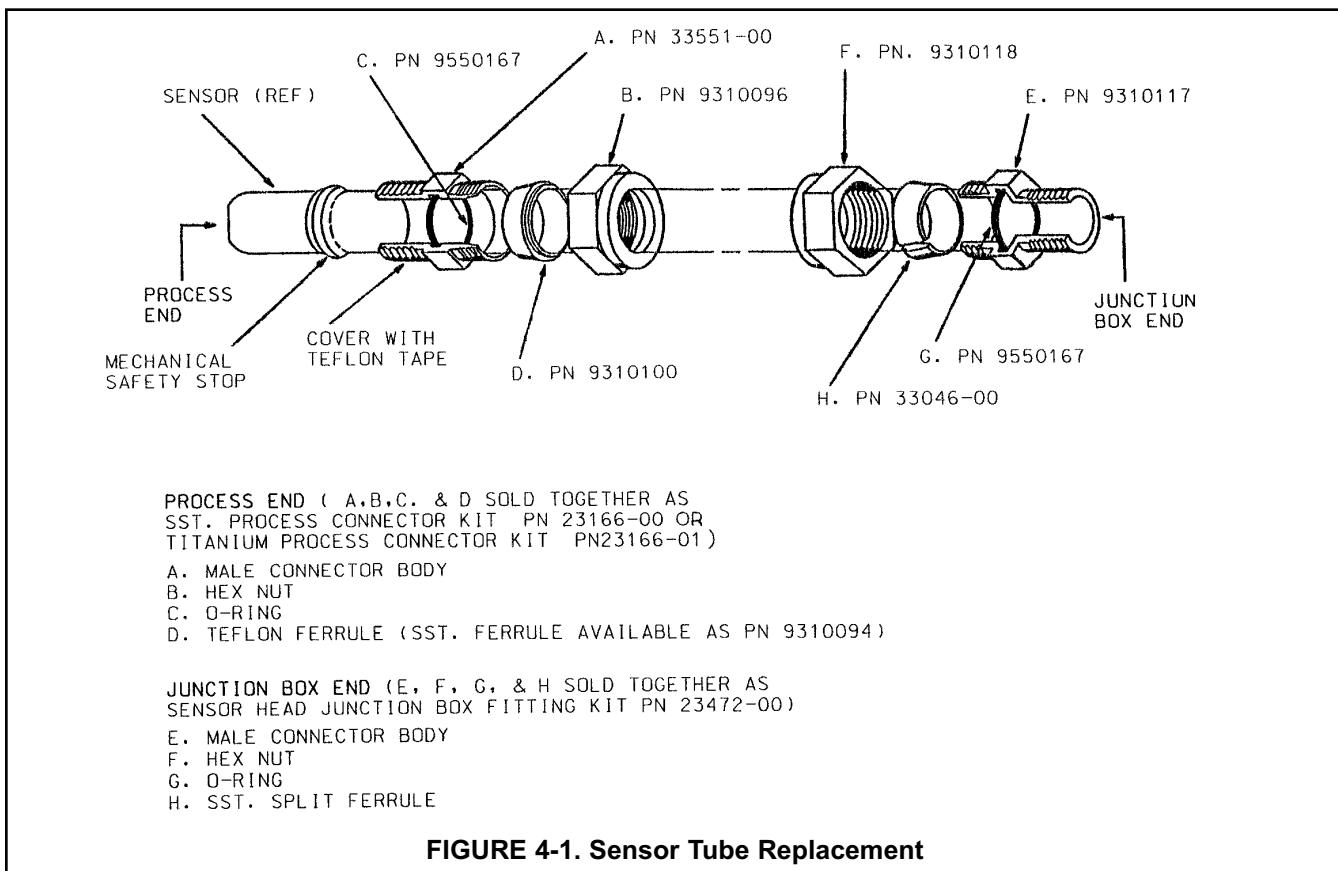

FIGURE 4-1. Sensor Tube Replacement
1. Be certain system pressure at the sensor is below 64 psig (442 kPa) before proceeding with the retraction. It is also recommended that the personnel wear a face shield and have a stable footing. Refer to Figure 4-1.
2. Push in on the sensor using the top of the J-box and slowly loosen the hex nut (B) of the process end male connector (A).
5. Cover the 1in. MNPT pipe threads of the male connector body (A) with TEFLON tape (not provided) to protect them from galling during reinstallation.
6. Pass the wires from the new sensor through the process end male connector (A). Make sure that the beveled edge of the ferrule faces the process end of the sensor. Snug the hex nut (B) to keep it in place. Do not tighten down fully on the hex nut at this time.
7. Pass the wires from the new sensor through the hex nut (D), the split ferrule (from the old sensor), male connector body (C), O-ring, and through the junction box from the "neck" opening and out to the printed circuit board in the junction box. Butt the ferrule's beveled edge and the sensor tube against the junction male connector (C). Screw the hex nut (D) by hand until the tube is "locked" into the male connector body. Make sure that the male connector body (C) is sufficiently tightened. The sensor will "click" into place by pulling the sensor tube away from the junction box, but will not move from side to side or pull clear of the male connector. If the sensor tube is correctly attached to the junction box, wrench tighten hex nut (D) on male connector body (C) (see Figure 4-1). Do not put the sensor tube in a vise or use a pipe wrench to tighten the hardware as these will damage the sensor. If sensor tube is not correctly attached to the junction box, loosen hex nut (D) and repeat.